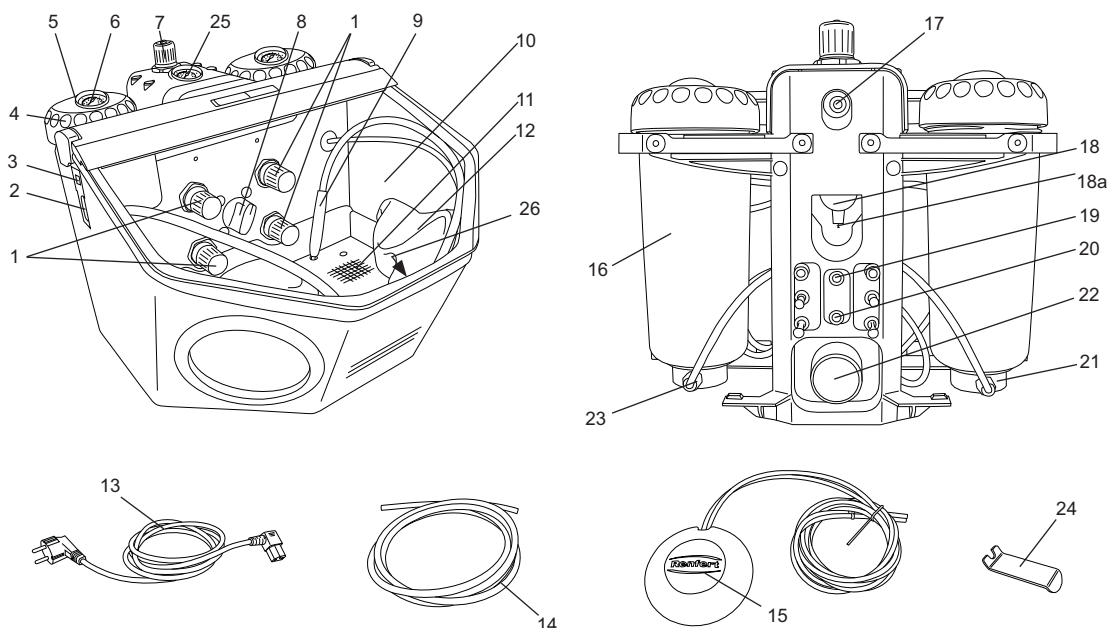

fig. 1
- Push the compressed air tube (14) onto the tube connection point (17) as far as it will go. In doing so there will be a slight resistance to overcome.
- Check whether the pressure is at the required level (see tech. data). Display will be shown on the manometer (25, fig. 1).
The air nozzle (26, fig.1) can be used to remove sandblasting residues and dust.